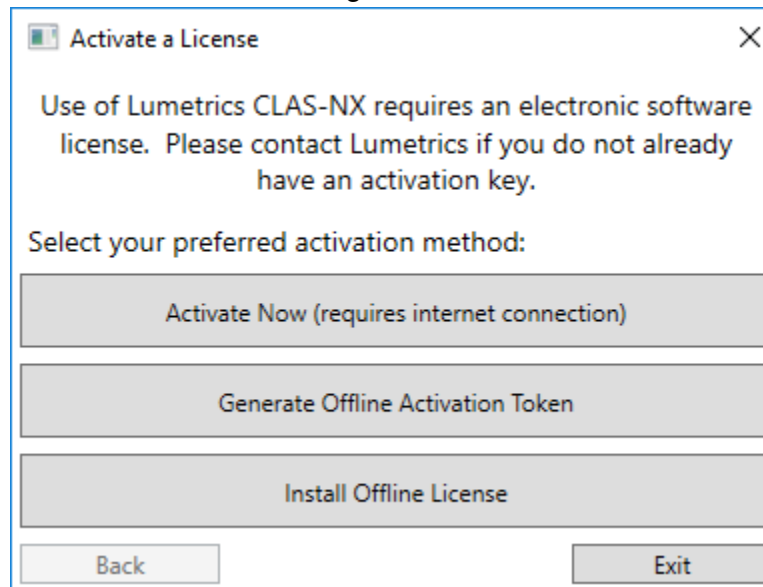

Figure 7: Activate a License window
c. You will see the wizard in Figure 7: